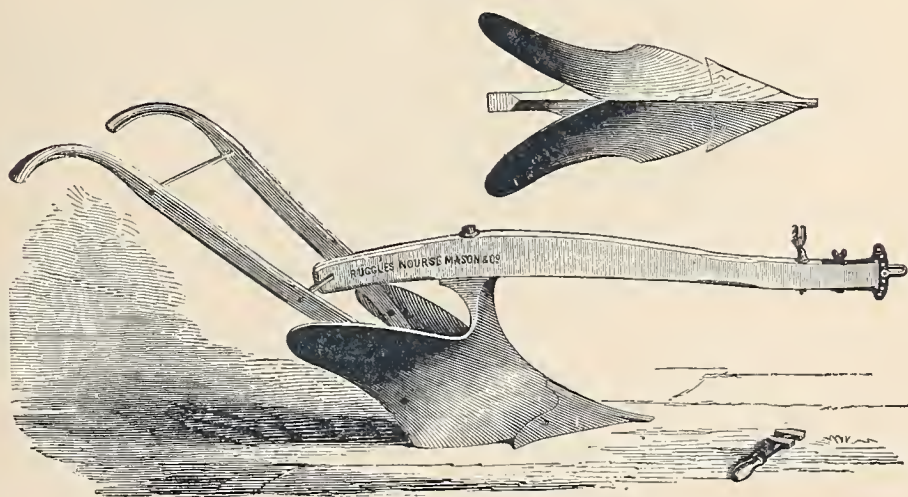

Fig. 290. — Double Mould-board Plow.
*Double Mould-board Plows* are shown by *Fig. 290*. They are used for opening drills to plant potatoes or corn ; for plowing out between narrow rows, throwing the dirt both ways to the plants ; thus doing the work of two plows ; they are also useful in digging potatoes, and a convenient implement for various kinds of work.